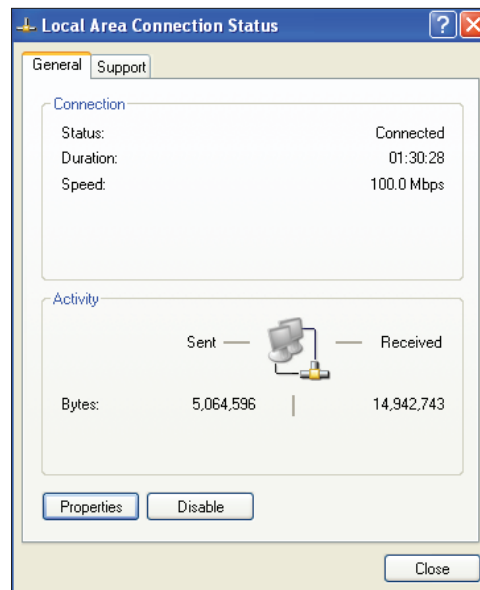

Figure 6: Local Area Connection Status Window
- 3.) In the *Network Connections Window*, double-click the **Local Area Connections** entry. The *Local Area Connection Status Window* will appear (Figure 6).
- 4.) As shown in Figure 6, click **<Properties>** in the lower left of the window. The *Local Area Connection Properties Window* will appear.